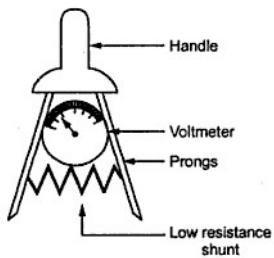

Fig. 1.27 Cell tester
2. Using cell tester : Another method of testing the lead acid battery is called high discharge test or short circuit test. The cell tester is used for this test. It consists of 0 - 3 V voltmeter shunted by a low resistance. The low resistance shunt is connected between two prongs as shown in the Fig. 1.27. The prongs are pressed against the cell terminals. A high discharge current flows through the low resistance and cell voltage is indicated by the voltmeter.